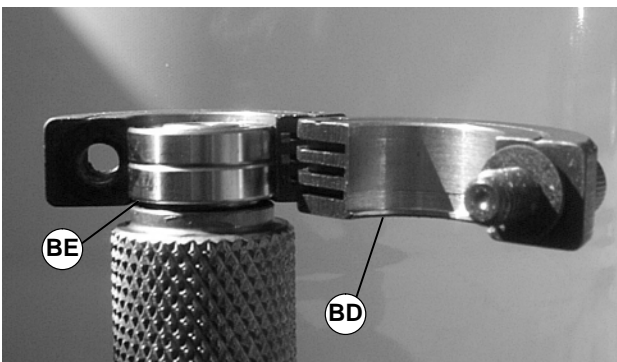

Figure 40
1. Place bearing removal tool (part # 450281) over bearing(s) with lip (BD of Figure 40) located in Bearing gap (BE) as shown.